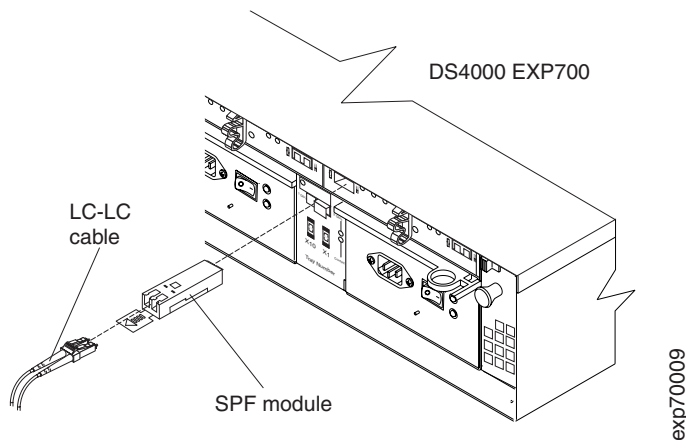

Figure 50. Installing an SFP module and connecting an LC-LC cable to the storage expansion enclosure
3. Install an SFP module in the SFP port on the back of the storage expansion enclosure; then, connect the other end of the LC-LC cable into the SFP module, as shown Figure 50.